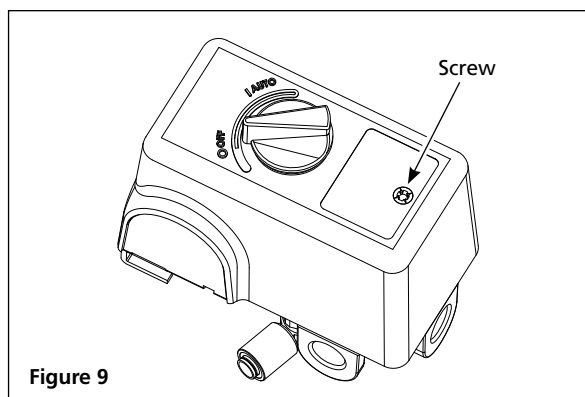

Figure 9
2. Remove the pressure switch cover by loosening the screw (see Figure 9). Use a Phillips screwdriver (not included). Pressure switch styles may vary.